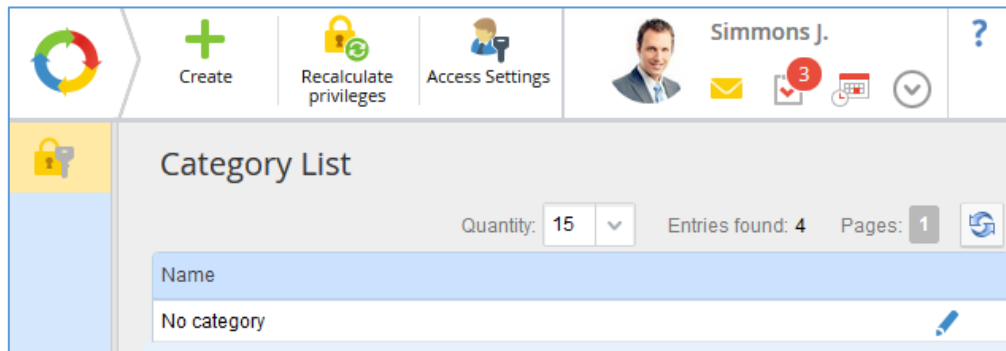

Fig. 204. Category list page
1. Create categories, configure privileges for contractors and leads, and set up access permissions in **Administration – CRM Settings – Categories** (Fig. 204).
By default, the list of categories displays only one category – **No category** (Fig. 204). When you create a **Contractor** or **Lead** without specifying a category, they will inherit all the permissions from **No category**.